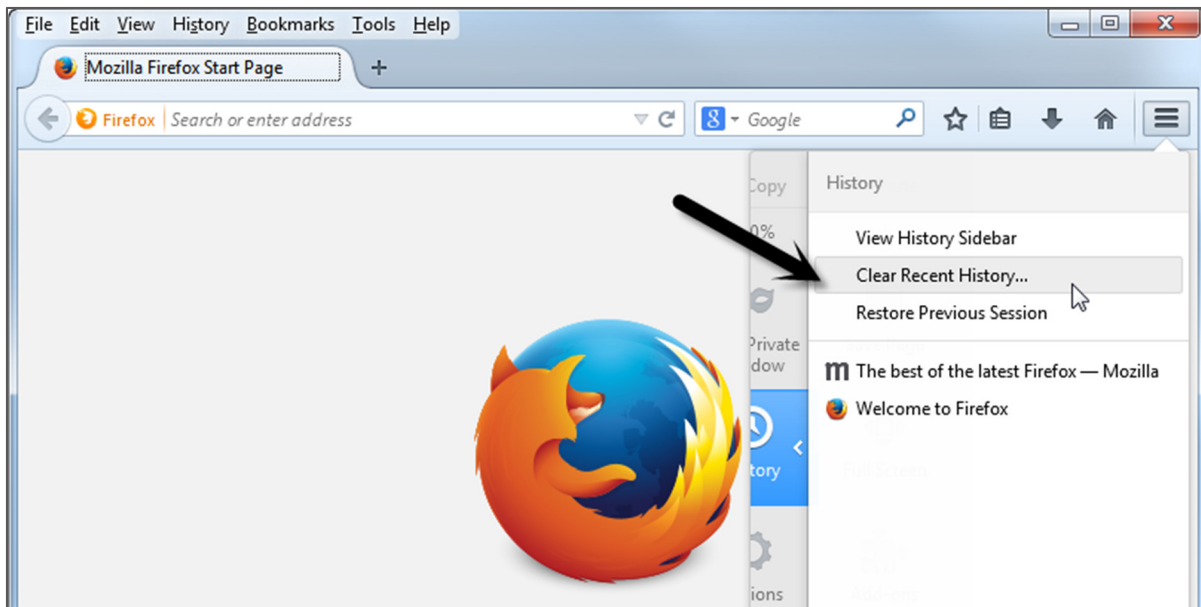

Figure 16: Firefox History submenu
- b) Select **History > Clear Recent History** to display Clear All History popup box (Figure 16).